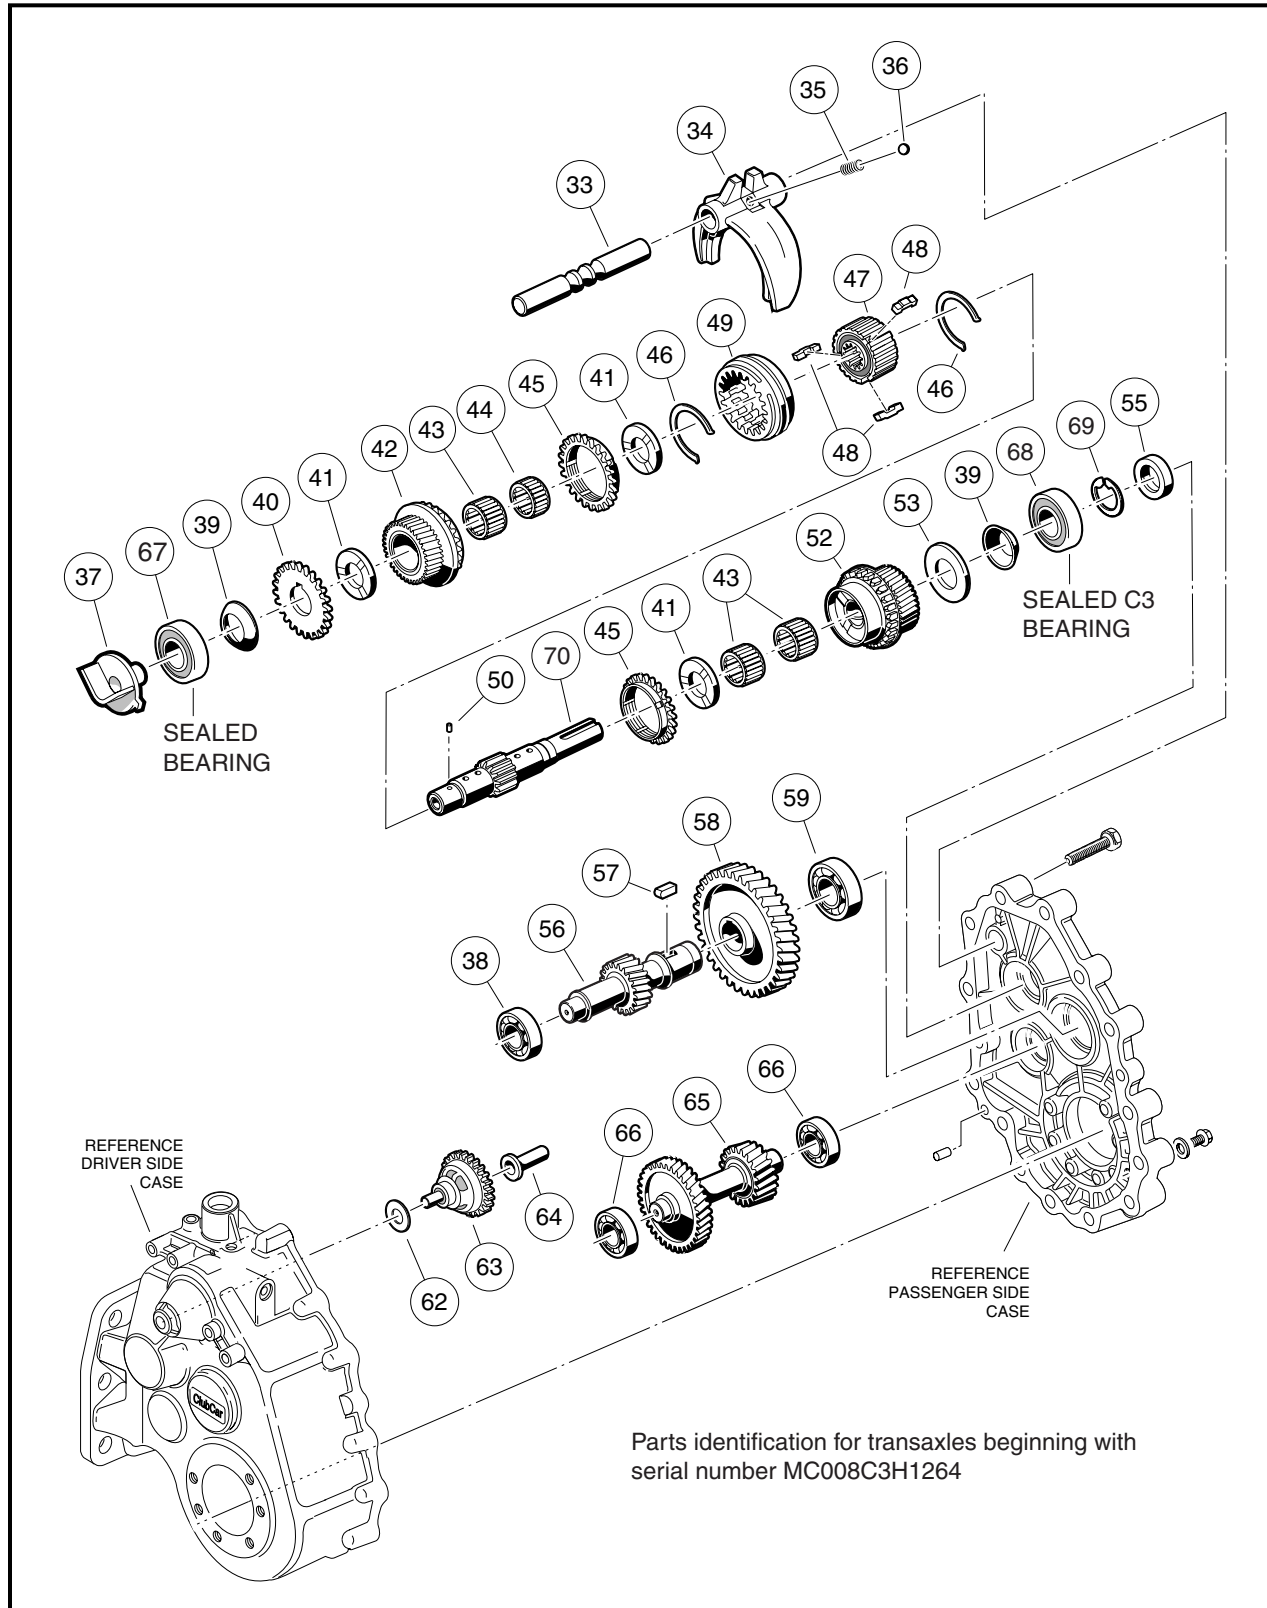

Figure 5-12 MC008C-FS00 Unitized Transaxle
- 2.1. Place a bearing puller wedge attachment (CCI P/N 1012812) between the sealed bearing (67) and spur (governor drive) gear (40) (**Figure 5-12, Page 5-8**), then press the bearing off the input shaft (70) (**Figure 5-18, Page 5-12**). See preceding CAUTION.
- 5.1. Remove the external snap ring (69) from the input shaft (70) (**Figure 5-12, Page 5-8**).
- 5.2. Place a bearing puller wedge attachment (CCI P/N 1012812) between the sealed C3 bearing (68) and input gear assembly (52) (**Figure 5-12, Page 5-8**), then press the bearing off the input shaft (70) (**Figure 5-19, Page 5-12**). See following CAUTION.